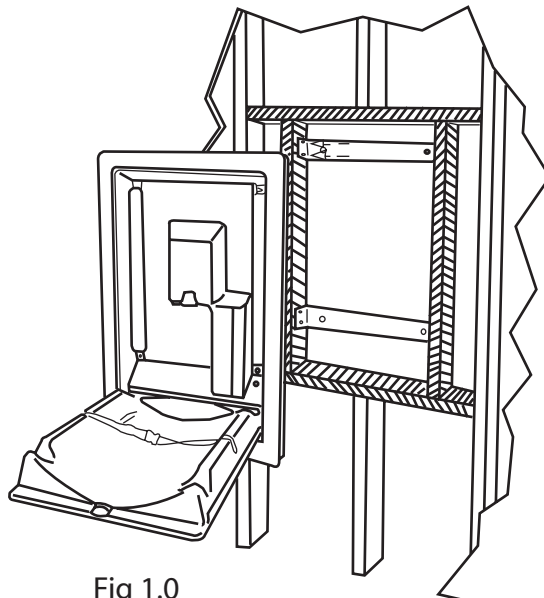

Fig 1.0
2. Select the wall area where the Baby Changing Station will be installed. Measure from the floor, at the center of the stud, and mark the wall at 62" (1575 mm). Hold the unit in place to verify alignment. Cut a hole (22.5" Wide, 36" High, and 4" depth) in the wall and construct mounting frame as shown in Fig1.0. If the wall surface is masonry or tile over wood studs, use caution when cutting the hole for the unit.
3. The unit comes with two mounting brackets that need to be secured to the mounting frame as shown in Fig 1.0.